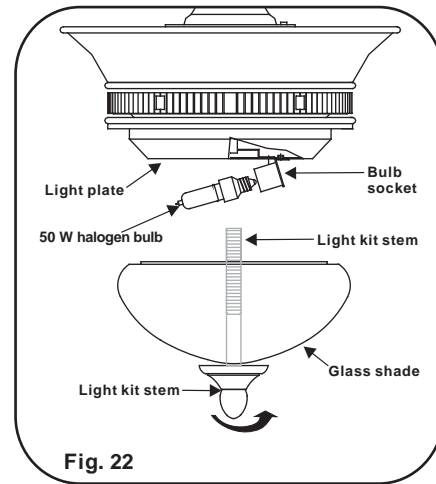

Fig. 22
Step 1. Install 2x50W halogen bulbs by screwing it clockwise into bulb sockets. (Fig. 22)
Step 2. Raise the glass shade up against the light plate and secure it to the fan with the light kit stem. (Fig. 22)